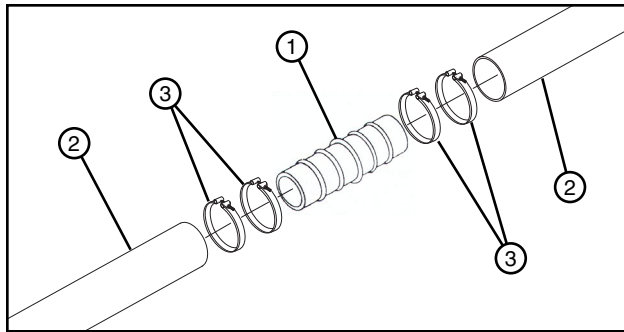

Figure 98-1 1. Rigid Mender
1. Place the rigid mender between the two sections of hose. See Figure 98-1.
2. Insert the mender halfway into the first hose section. See Figure 98-1.
3. Slide the other hose section into the mender. See Figure 98-1.
4. Secure both hoses onto rigid mender with band clamps. See Figure 98-1.